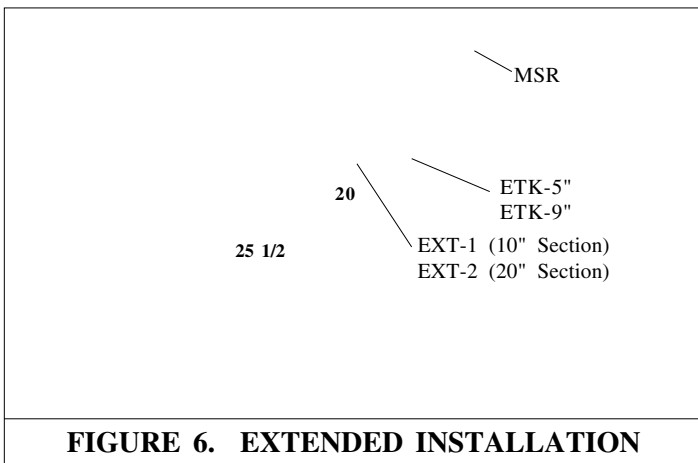

FIGURE 6. EXTENDED INSTALLATION
- 2). Extended vent kit. For extended vent use a stucco frame, 20" extended vent and a termination. **Note:** 20" kit may be cut to desired length but must never exceed 20". (see figure 6).